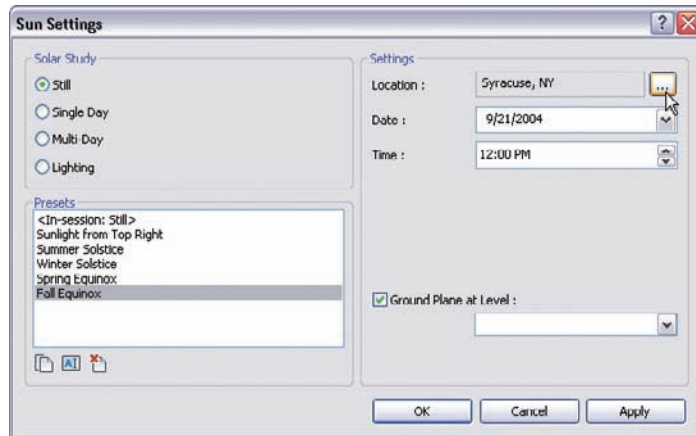

FIGURE 19.3 The Sun Settings dialog
15. Choose your geographic location for the settings Date, Time, and Location. (I am choosing Syracuse, NY, and my birthday [05/10 is the default].) You can change these settings if you would like (see Figure 19.3).